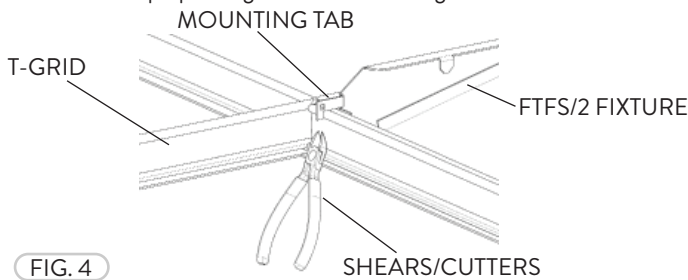

FIG. 4
- 2 If needed, use metal Shears/Cutters to carefully adjust each Mounting Tab to the proper height of the T-Grid (Fig. 4).